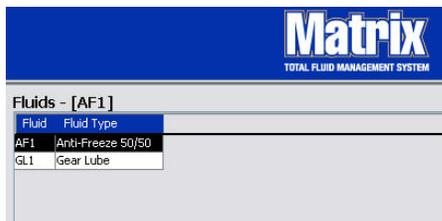

FIG. 113
6. To modify the name assigned to a fluid or the type of fluid assigned to a name (FIG. 113) highlight the entry listed on the main Fluids screen.